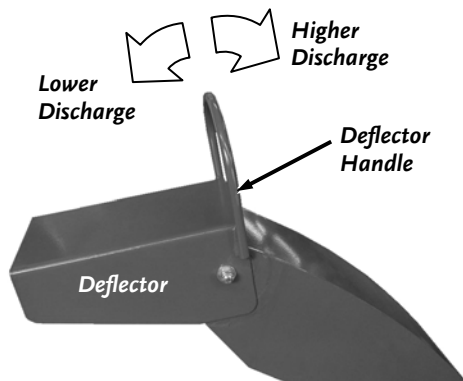

Figure 50
1. Grab the Deflector Handle and rotate the Deflector to the desired discharge position (**Figure 50**).